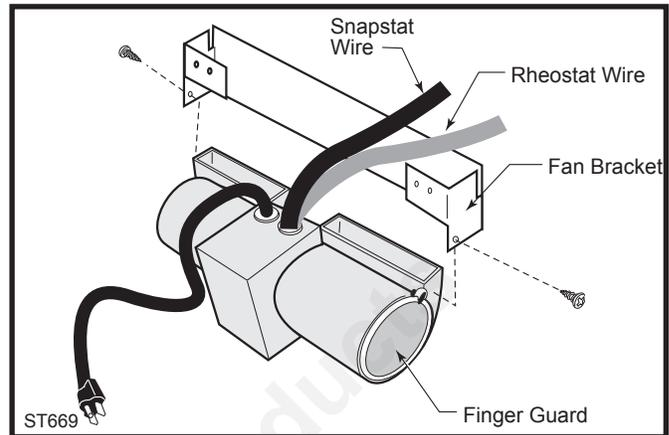

Fig. 8 Attach the fan assembly to the fan bracket.
2. Remove the rear shroud by loosening the two (2) bolts at the bottom left and right side of the shroud. Slide shroud straight up, rotate the bottom out and away from stove and pull shroud out.
3. Attach the fan assembly to the fan bracket provided in the log box. Use #10 sheet metal screws provided in fan kit. Do not remove finger guard screws. (Fig. 8)